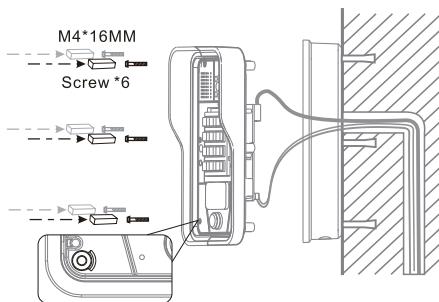

Figure 8
- A. **After locking the 6 screws into the corresponding position of the plastic housing, the 6 conductive sponges is loaded into a screw hole. As shown in Fig. 8, the rear shell is locked.**
- B. Push the front panel into the plastic frame, and tighten it with 6 screws as diagram (9).